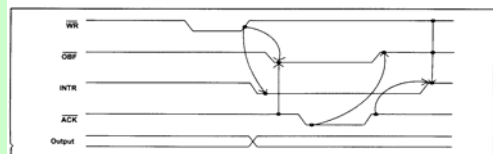

Figure 4-11. Timing Diagram for Mode 1 Output (Reprinted by permission of Intel Corporation, Copyright Intel Corp. 1983)
- Fig. 4-11 provides a timing diagram.